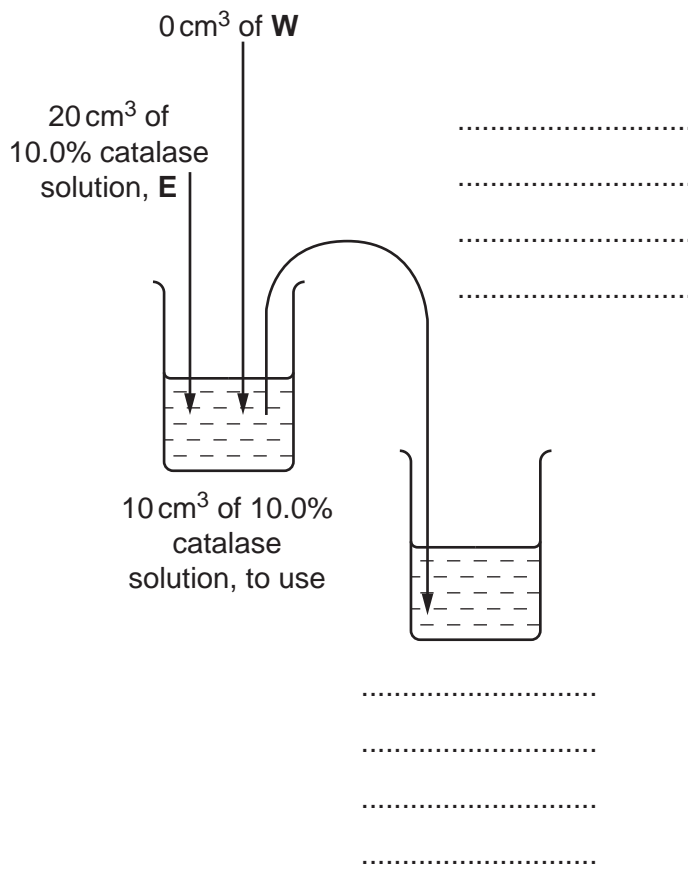

Fig. 1.2
- (i) Complete Fig. 1.2 to show how you will prepare your serial dilution.
Fig. 1.2 shows the first two beakers you will use to make your serial dilution. You will need to draw **three** additional beakers.